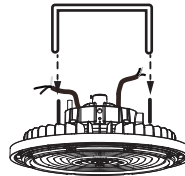

Figure 3
2. Next, attach the U bracket to the L-shaped U mounting brackets (see Figure 3)